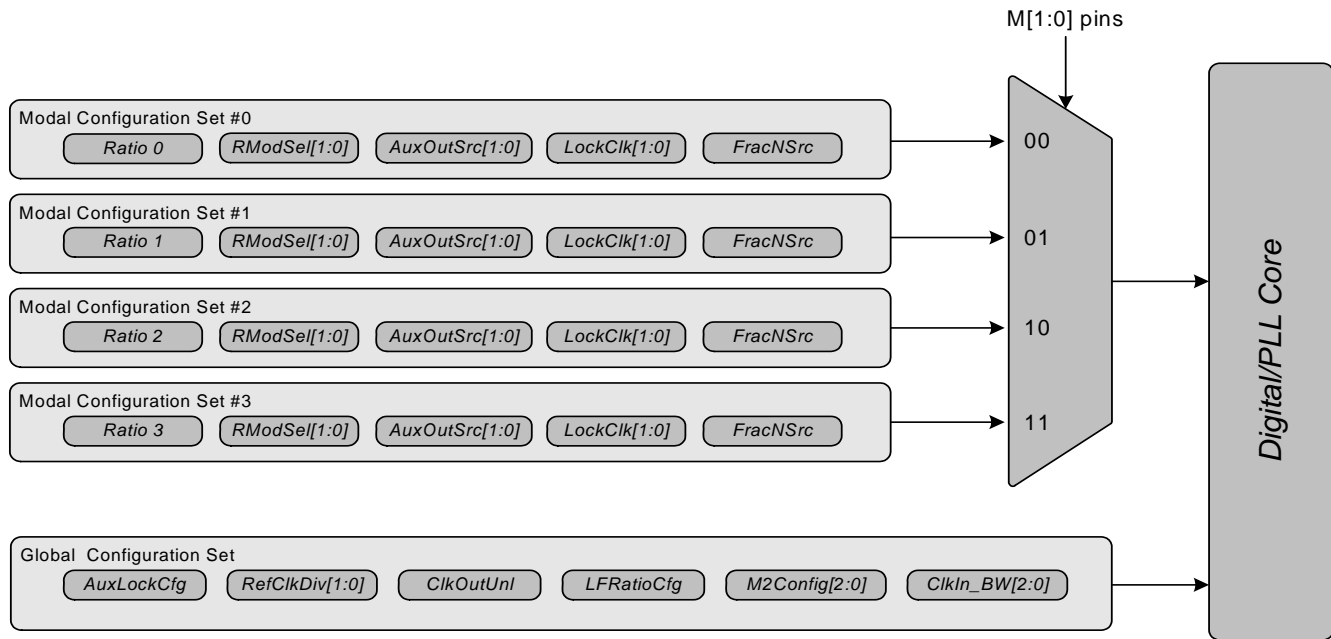

Figure 17. Parameter Configuration Sets
M[1:0] determine the functional mode of the device and select both the default User Defined Ratio and the set of modal parameters. The modal parameters are *RModSel*[1:0], *AuxOutSrc*[1:0], *LockClk*[1:0], and *FracNSrc*. By modifying one or more of the modal parameters between the 4 sets, different functional configurations can be achieved. However, global parameters are fixed and the same value will be applied to each functional configuration. Figure 17 on page 22 provides a summary of all parameters used by the device.
As mentioned in Section 5.1 on page 11, there are two different kinds of parameter configuration sets, Modal and Global. These configuration sets, shown in Figure 17, can be programmed in the field using the CDK2000 or pre-programmed at the factory. Please see “Programming Information” on page 27 for more details.
**Note:** The User Defined Ratio for the static ratio based Frequency Synthesizer mode is the ratio that corresponds with the currently chosen configuration set as shown in Figure 17 on page 22.